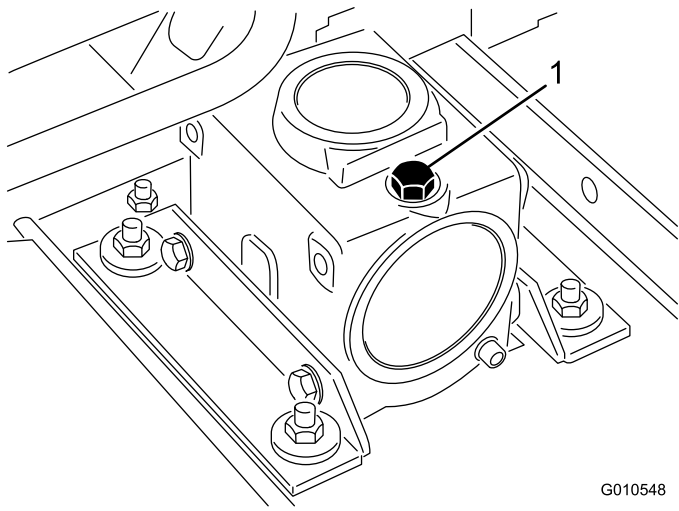

Figure 22
2. Remove the dipstick/fill plug from the top of the gearbox (Figure 22) and make sure that the lubricant is between the marks on the dipstick. If the lubricant level is low, add enough lubricant until the level is between the marks.